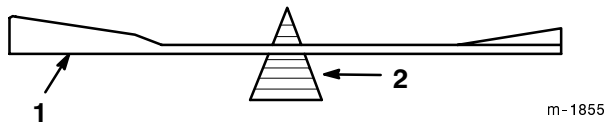

Figure 46
2. Check the balance of the blade by putting it on a blade balancer (Fig. 46). If the blade stays in a horizontal position, the blade is balanced and can be used. If the blade is not balanced, file some metal off the end of the sail area only (Fig. 44). Repeat this procedure until the blade is balanced.